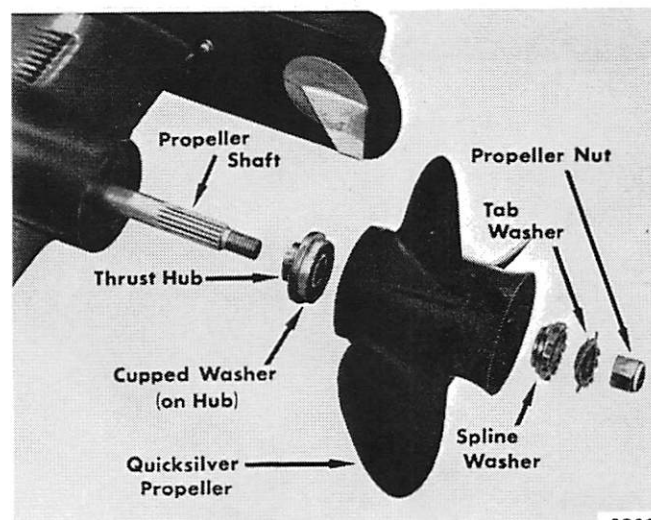

Figure 2. Propeller Installation - Merc 650 and 800 (4-Cyl.)
## INSTALLING PROPELLER (Figure 2)
2. Apply thin coat of New Multipurpose Quicksilver Lubricant (C-92-49588) on splines of propeller shaft. (Figure 2)